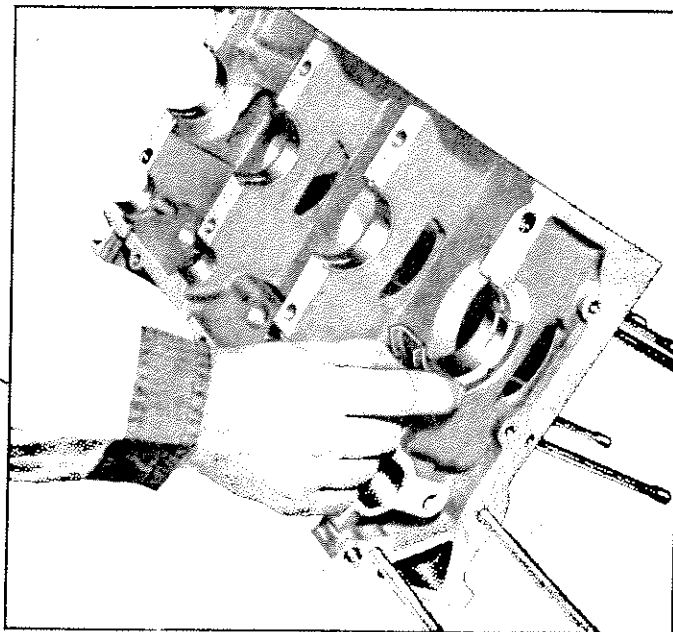

Fig. 55—Removing Main Bearings
27. Remove main bearings from each crankshaft half by rotating bearings with fingers (tang and first) (fig. 55).